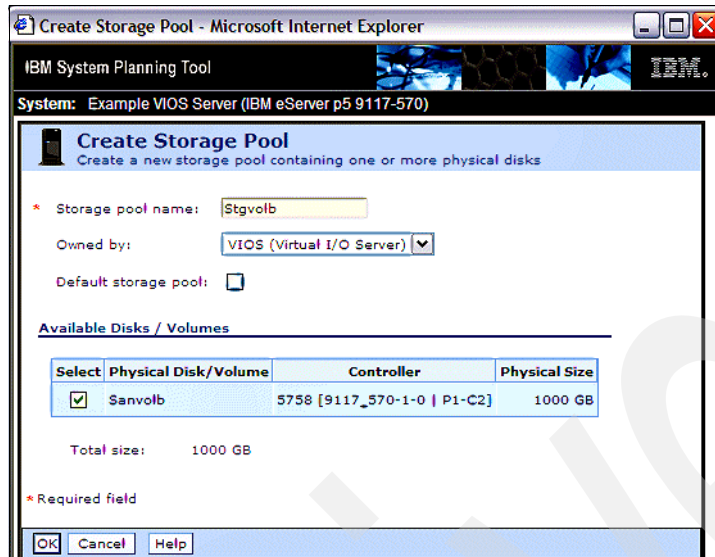

Figure 4-21 Create the storage pool
4. On the Advance Setting tab (Figure 4-21 on page 125) you can enter information in the World-wide name and Logical unit number fields. They are defined as:
You Virtual I/O Server can define storage pools for any real disks and SAN volumes already defined for use by this partition. Each client partition must have storage volumes assigned. Figure 4-21 shows the naming of a storage pool, which contains the storage for the disks assigned to each partition.